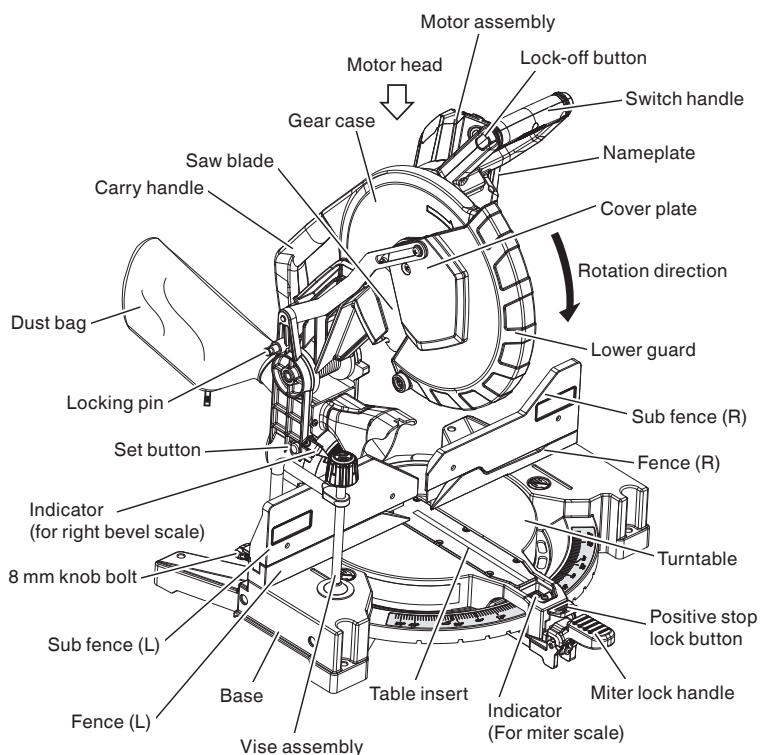
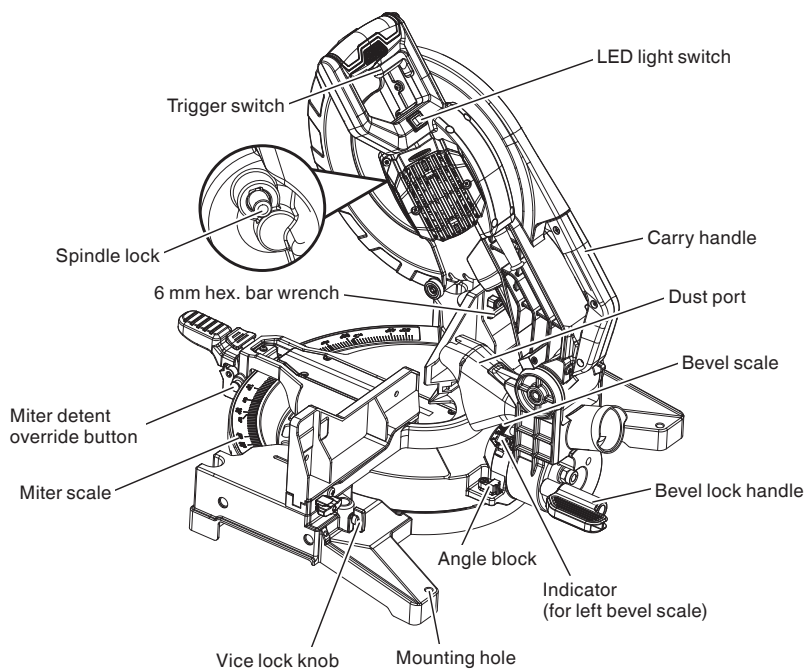

Fig. 1
Fig. 2
4. Installing the sub fence (L), dust bag, extension holder, stopper and vises (The extension holder and stopper are optional accessories.)
Attach the sub fence (L), dust bag and vise assembly as indicated in Fig. 1 and Fig. 2.
(Attach the vise assembly as shown in Fig. 1, Fig. 2 and Fig. 18.)
After installing the saw blade, confirm that the spindle lock has been returned to the released position before using the power tool (see Fig. 2).